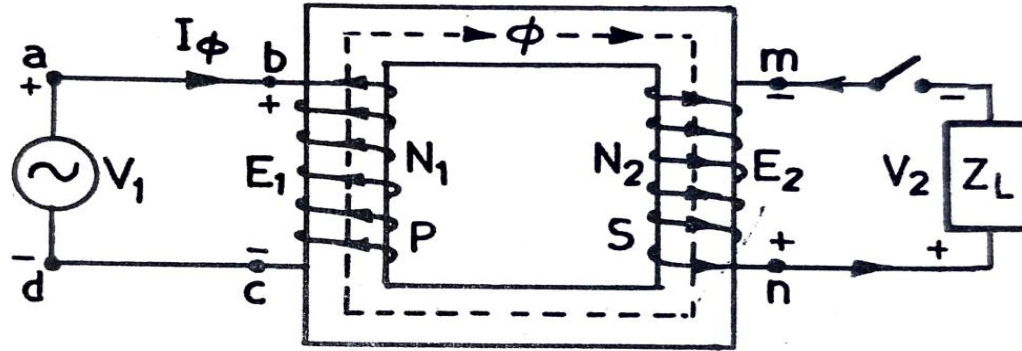

Fig. 8.8.
- ✓ The current I_ϕ in the primary is assumed to flow along the path $abcda$ in **Fig. 8.8**.
- ✓ A load impedance Z_L gets connected across the secondary terminal if the switch S is closed in **Fig. 8.8**.
- ✓ As F_2 to be directed against Φ_m , the current I_2 must leave the terminal n , pass through the load and enter the terminal m in **Fig. 8.8**.
- ✓ When terminal b is positive with respect to c in **Fig. 8.8**, terminal n is positive with respect to m at the same time. This forms the basis for polarity markings in transformers.
- ✓ If secondary winding is wound in a manner opposite to that shown in **Fig. 8.8**, terminal m would be positive with respect to terminal n .